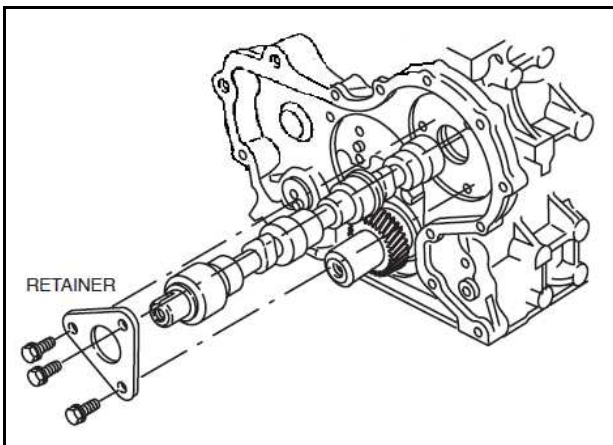

Fig. 12 - Installing Camshaft
3. Lubricate, then install camshaft in cylinder block, Fig. 12. Take care not to damage lobes or cam bearing.